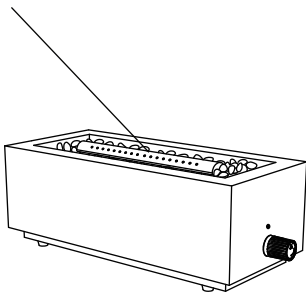

Figure 4
4. Clear small area of glass beads away from the burner (Figure 4).